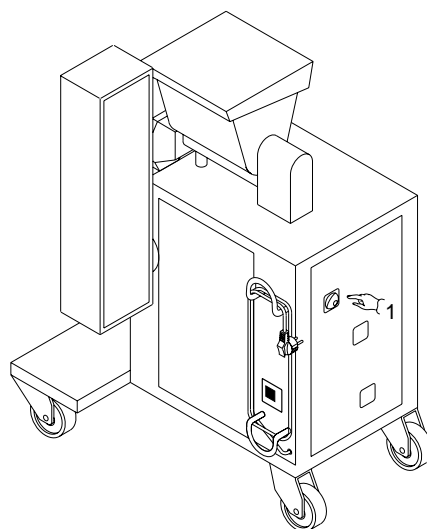

Fig. 4.6
- b. Turn on the main switch located on the rear panel of the machine (*Pos.1 Fig.4.6*).